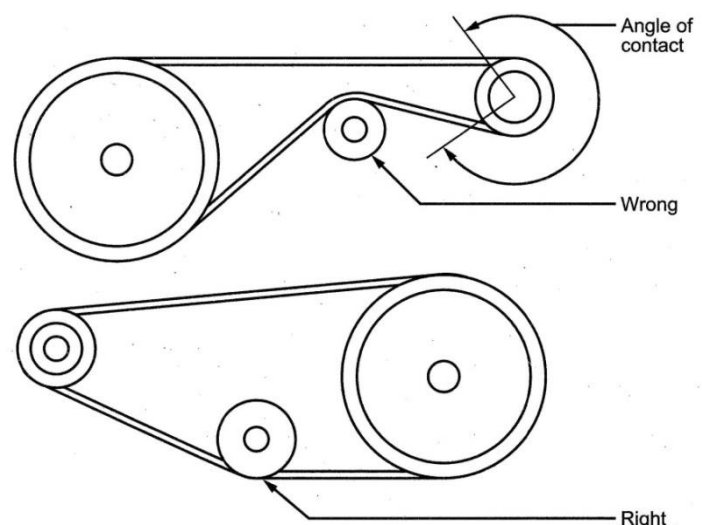

Figure 4.17 Position of the idler pulley
- Increase the arc of contact on the small pulley as shown in **Figure 4.17**.
- Using an idler on the inside of the belt. An idler on the back of the belt will cause cracks in the bottom or base section of the belt. The position of the idler pulley is shown in **Figure 4.17**.